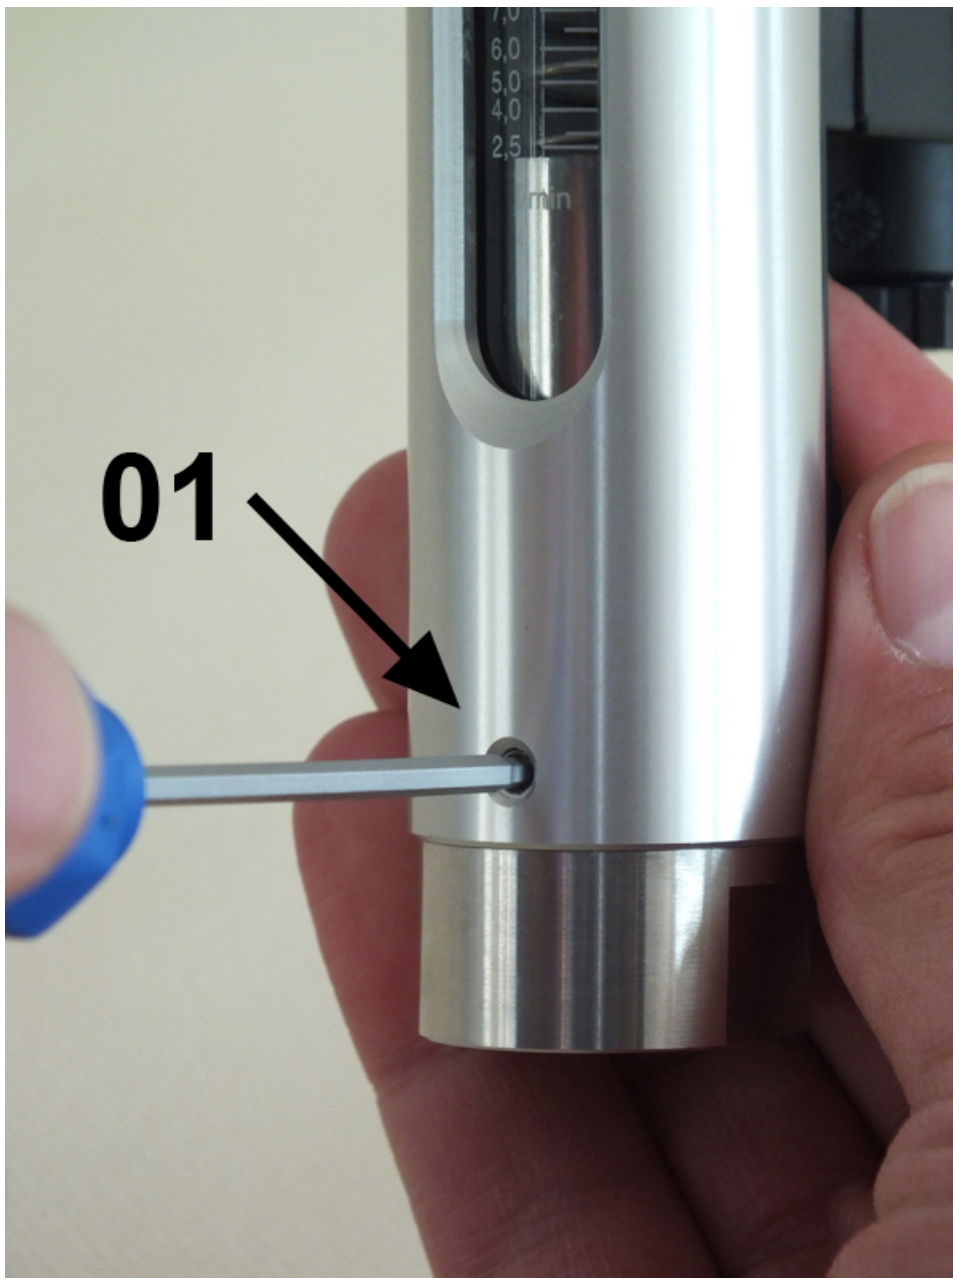

Fig. 47: Secure the process connection (inlet)
- 9.** ➤ Secure the inlet process connection to the device housing with 3 hex socket screws (*Fig. 47/01*) observing the proper torque.